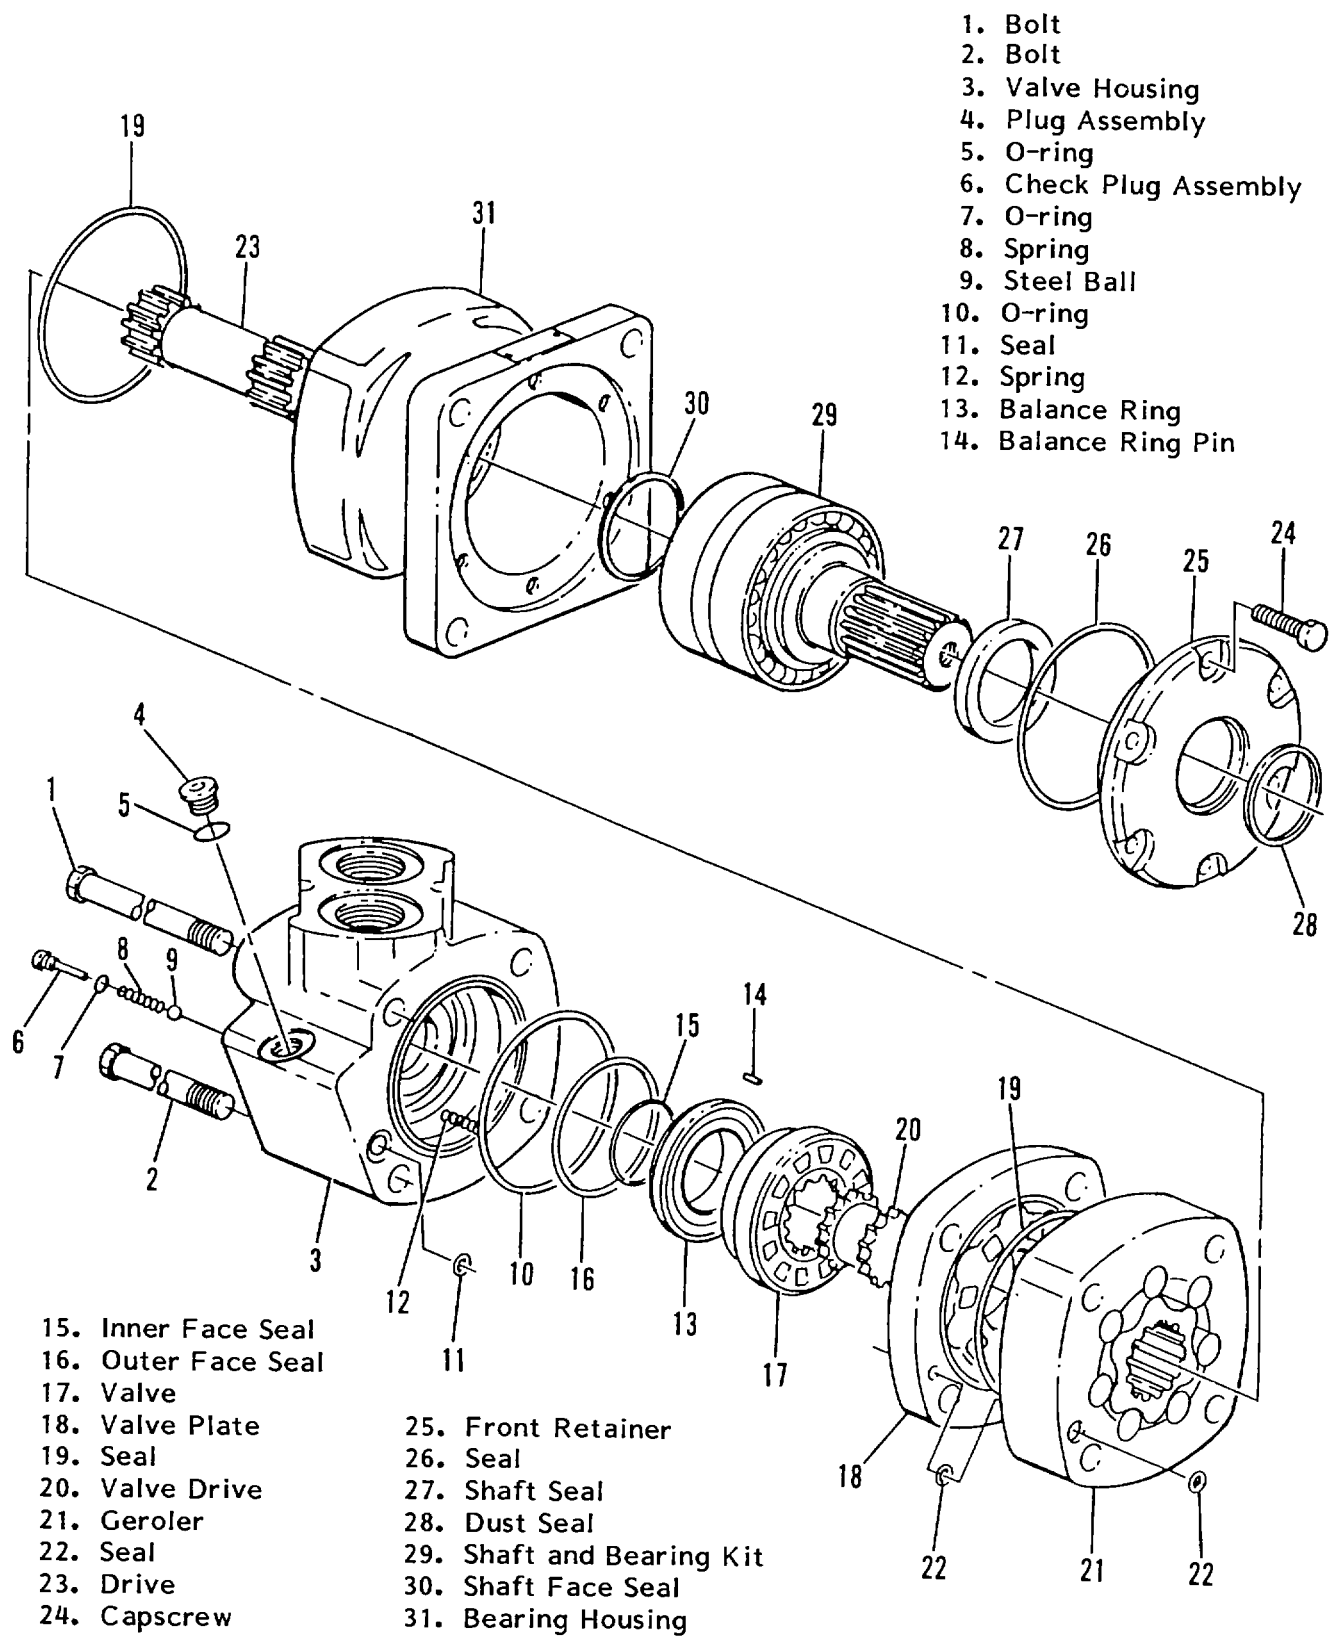

Figure 4-45. Winch Motor
4-19.2 Winch Motor (Figure 4-45).
- (1) The first step in timing is to locate the largest open pocket in the geroler; mark the location on the outside edge of the geroler. Aline case drain hole and pressure relief hole in geroler with similar holes in bearing housing. Install geroler on bearing housing. (Retain rollers in outer geroler ring if they are loose.) Install valve drive in geroler. Aline case drain hole valve plate with case drain hole in geroler. Install valve plate (seal side toward geroler) on geroler.
- (2) The second step is to locate the slot opening in the valve plate which is in line with the largest open pocket of the geroler.
- (3) Finally, locate any one of side openings of the valve that goes through to the face of the valve. Line up this side opening with open slot of valve plate that is in line with largest open pocket of geroler. Rotate valve clockwise (one-half spline tooth) to engage spline teeth of valve drive. This provides the rotation shown when pressurized as shown in Detail B.
- g. Apply clean grease on three balance ring springs (12, Figure 4-45) and install in three holes located inside boreface of valve housing (3). Apply petroleum jelly to small seal (11) and install in case drain groove of valve housing. Apply petroleum jelly to o-ring (10) and install in outside groove of valve housing.
- h. Apply petroleum jelly to inner and outer face seals (15, 16). Lay the balance ring (13) with the seal surfaces up and install the inner seal with the outside diameter facing down and install outer seal with the outside diameter facing up.
- i. Align balance ring pins (14) with two holes in valve housing. Install balance ring (13) in valve housing (3). Insert your finger through port of housing. Apply pressure to side of balance ring assembly. Hold ring in position until valve housing is in place. Align case drain hole in housing with case drain hole in valve plate (18). Install valve housing against valve plate.
- k. Install two check plug assemblies: steel balls (9), springs (8), plugs (6), and seal (7). Install case drain plug (4) and seal (5).